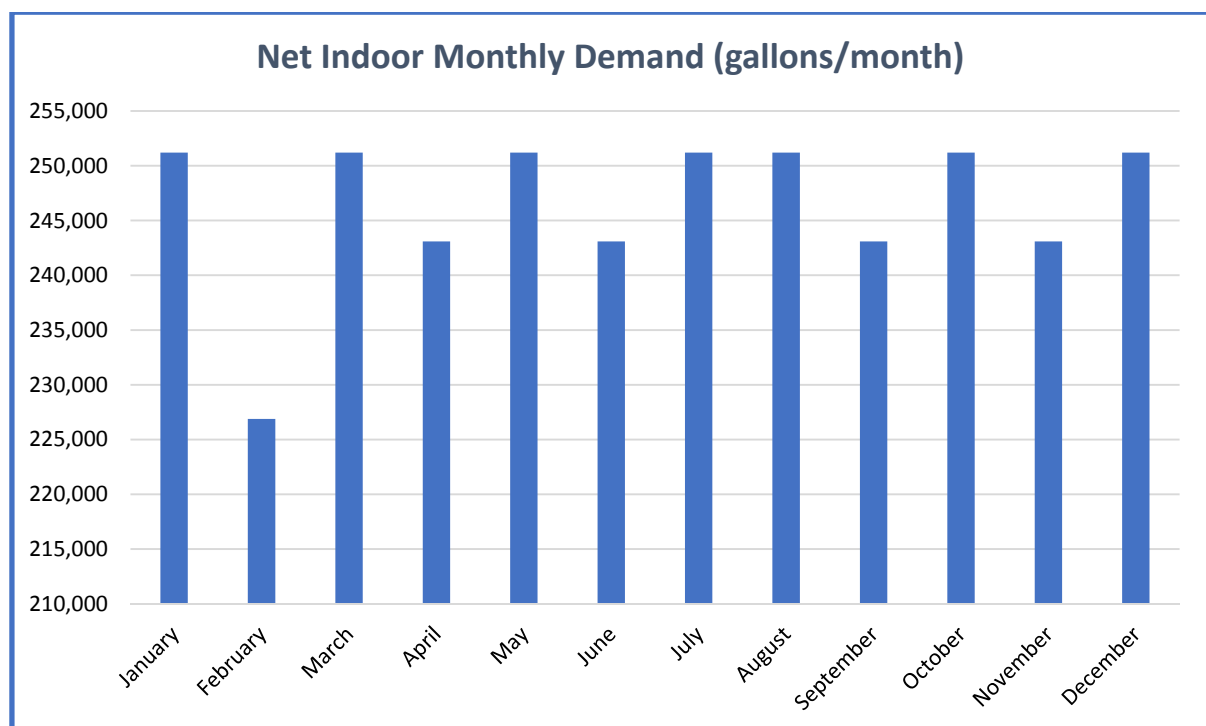

Figure A2. Monthly indoor water demand variation
- A bar chart showing net indoor monthly demand is attached in appendix II as Figure A2.